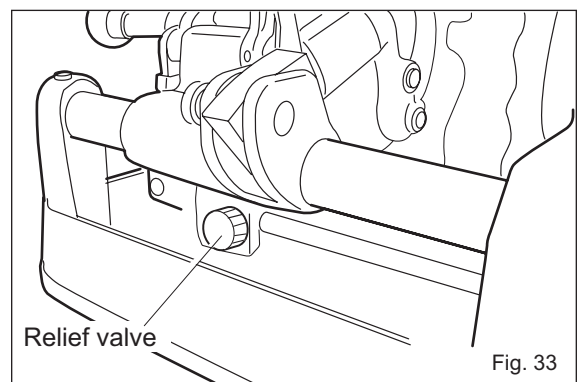

Fig. 33
- Turn the relief valve to adjust to the most suitable amount of oil needed. (Fig. 33)